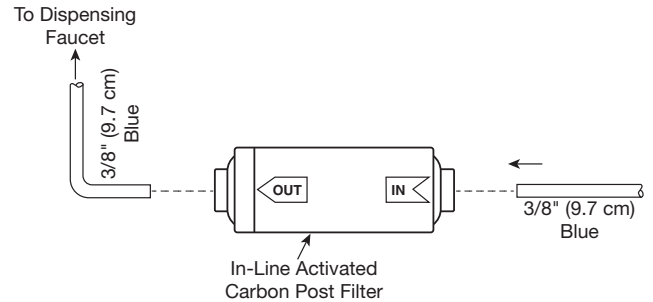

Figure 5: In-Line Activated Carbon Post Filter
4. Firmly reconnect the Polytube to new Post Filter. (Refer to Figure 5). Make sure that the tubing is pressed all the way in to create a pressure tight connection.